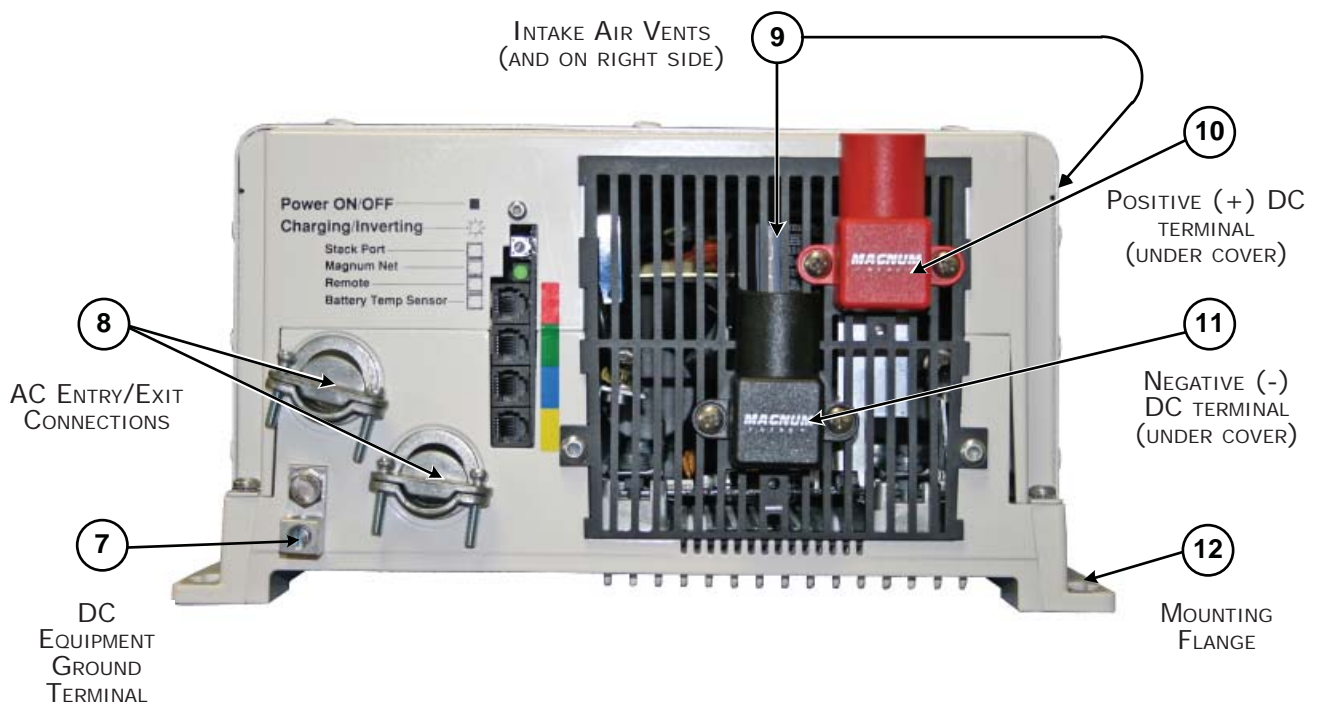

Figure 1-2, Electrical Connection Points
**Ventilation** – In order for the inverter to provide full output power and to avoid over-temperature fault conditions, do not cover or block the inverter's ventilation openings or install this inverter in an area with limited airflow. The inverter uses two fans to provide forced air cooling, these fans pull in air through the intake vents (see Item 9, Figure 1-2) and blow out air through the exhaust vents (see Item 13, Figure 1-3). Allow at the minimum an airspace clearance of 6" at the intake and exhaust vents, and 3" everywhere else to provide adequate ventilation.